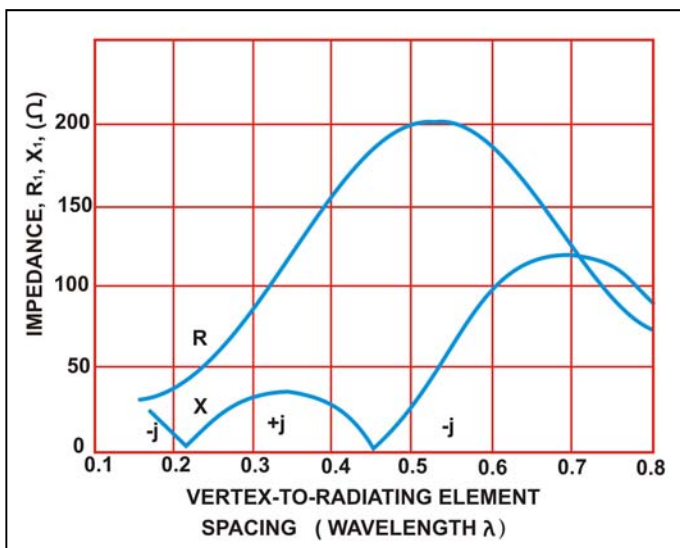
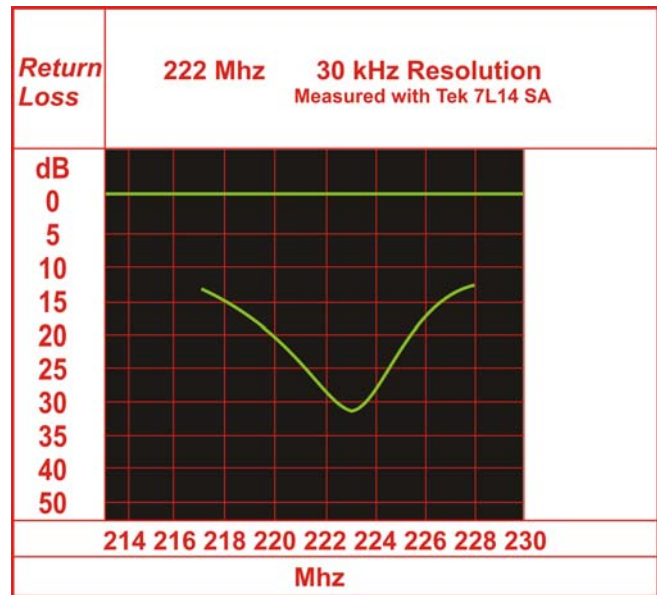

Figure 1—Base impedance compared to radiating element-to-vertex spacing for a 90° corner reflector antenna. The radiating element is a folded monopole.
Figure 4
To determine proper spacing and impedance, the base impedance was calculated using image antennas for the analysis. The results are plotted in Fig. 1. Figs. 4, 5 and 6 give gain of the antenna, pattern, and base impedance as a function of spacing. (Equations appear in the Appendix.) Refer to Fig. 1. The base impedance was calculated using a folded-monopole antenna with equal-diameter elements. A spacing between vertex and radiating element of 0.23 wavelength will give a 50-ohm base impedance with substantially zero reactance. The impedance set-up ratio (r) is 4:1. Conversely, if a single element radiating antenna were desired, the values showing (Fig. 1) would be divided by four (both resistance and reactance). For example, at approximately 0.23 wavelength the resistance of a single-element radiator would yield a resonant impedance of approximately 12.5 ohms (50/4). This very low impedance would contribute to antenna inefficiency. The folded-monopole radiating element was chosen for the 50ohm feed-point Impedance and because a grounded antenna would also reduce static noise in the receiver.
**Figure 4**—Antenna return-loss measurement for two 90° corner reflectors with folded monopole radiating elements, spaced 286° apart and fed in phase. The center frequency was 223MHz. Vertical divisions are 10dB each; horizontal divisions are 1MHz each.
At higher frequencies, the physical size of the antenna would become smaller. A wider spacing between the vertex and the radiating element and use of a single radiating element, rather than the folded monopole, would give a good operating base impedance near 50 ohms with no reactance. The gain would increase approximately 2 dB over the W6RYX antenna (Figs. 1 and 5).